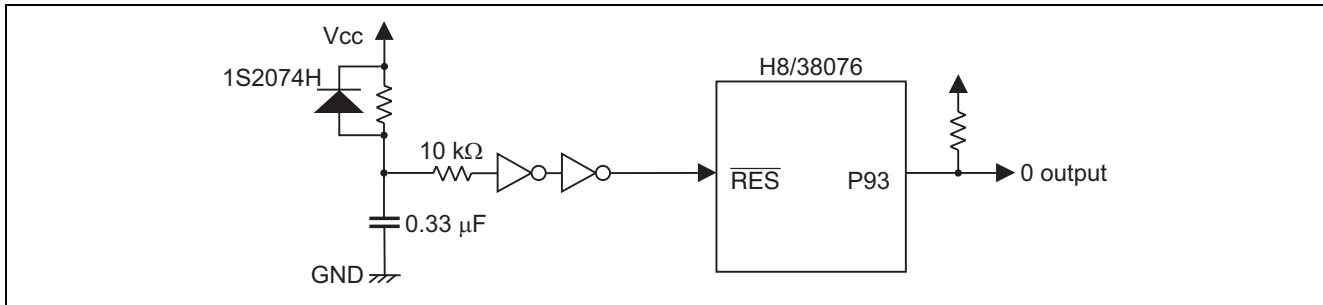

Figure 1 Connection of Microcomputer when External RC Diode Circuit Is Used
- A reset circuit (RC diode circuit) consisting of a resistor, a capacitor, and two diodes is connected to the H8/38076 to perform power-on resets. Figure 1 shows an example of connecting the external RC diode circuit.